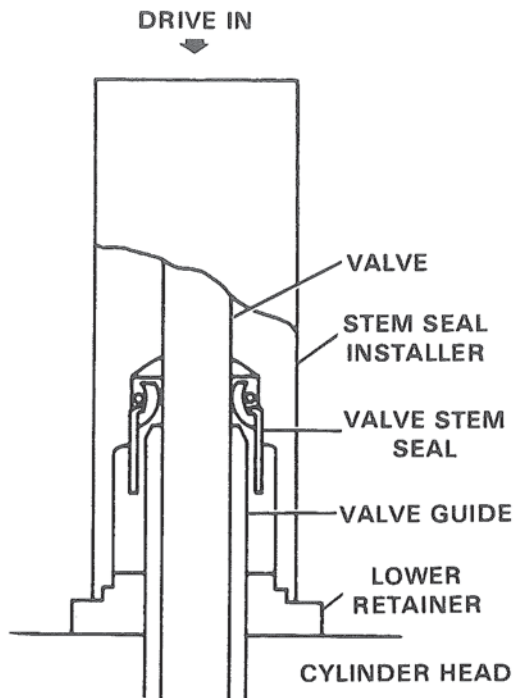

Figure 33. Installing Valve Stem Seal.
2. Install valve stem seals. Figure 33.
- C. Press installer down until it comes in contact with spring retainer. Figure 33.